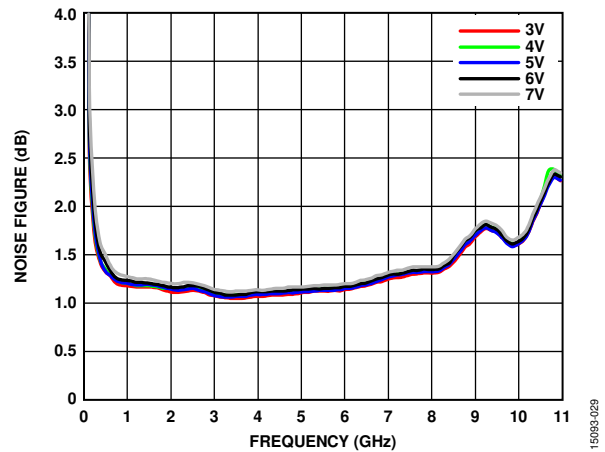
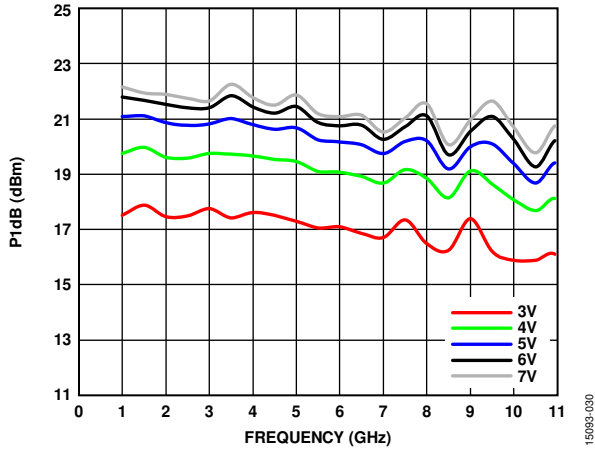
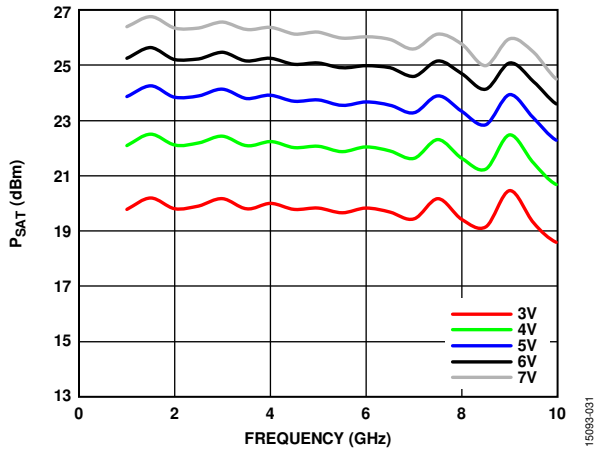

Figure 29. Noise Figure vs. Frequency for Various Supply Voltages,  $I_{DQ} = 65 mA$
Figure 30. P1dB vs. Frequency for Various Supply Voltages,  $I_{DQ} = 65 \text{ mA}$
Figure 31.  $P_{SAT}$  vs. Frequency for Various Supply Voltages,  $I_{DQ} = 65 \text{ mA}$
Figure 29, Figure 30, and Figure 31 show that increasing the voltage from 3 V to 7 V typically increases P1dB and PSAT at the expense of power consumption with minor degradation on noise figure (NF).